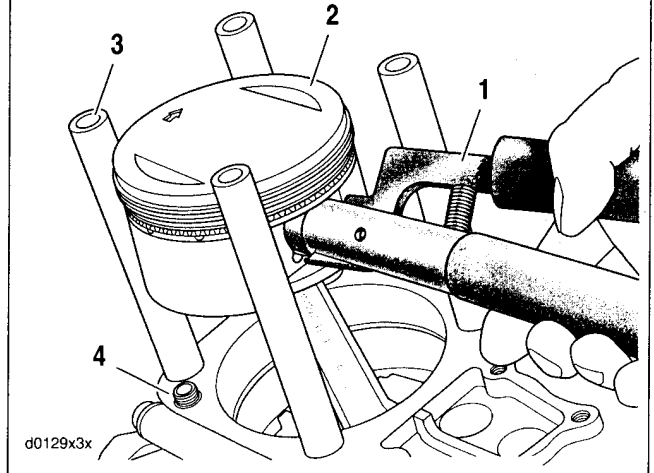

Figure 3-27. Piston Pin Circlip Removal (Part No. HD-42317)
2. See Figure 3-27. Remove the piston pin circlip.
- a. Insert the PISTON PIN CIRCLIP REMOVER/INSTALLER (1) (Part No. HD-42317) into the piston pin bore. Position claw on tool in slot of piston (2) (directly under circlip).